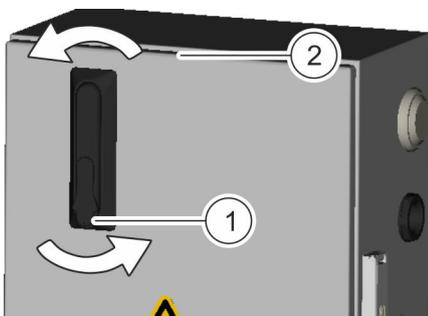

Fig. 18: Opening the enclosure door
2. ➤ Open the enclosure door. To do this, first fold out the swivel lever (Fig. 18/1) and then rotate it anti-clockwise (Fig. 18/2).